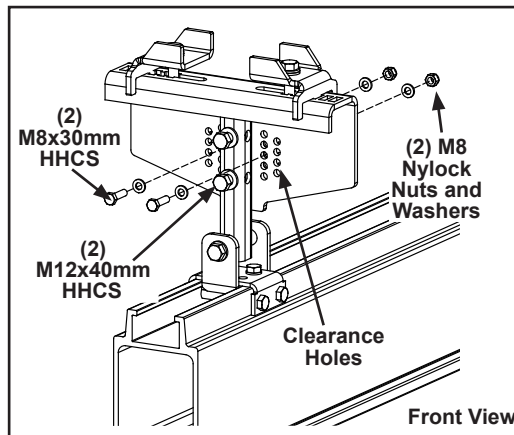

Figure 3-16
- Step 2. Remove two (2) M8 x 30 mm HHCS and loosen two (2) M12 x 40 mm HHCS on I-Beam plate. See Figure 3-16.